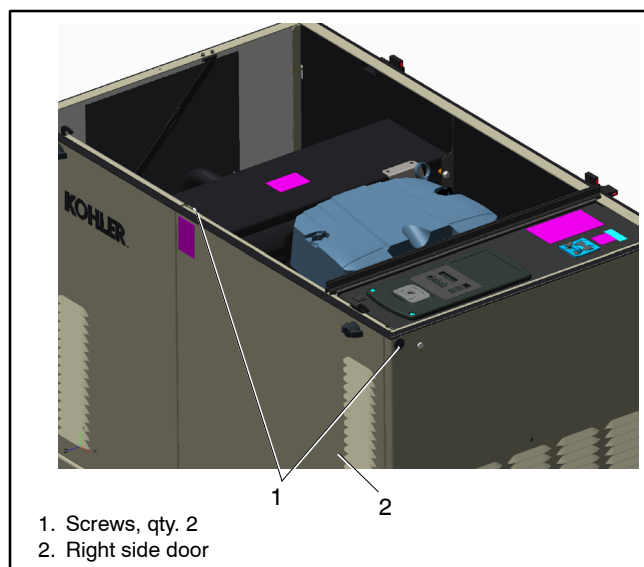

Figure 2 Removing the Service Door
5. Remove the service door from the right side of the enclosure by removing the plug and two screws. See Figure 2. Lift the door up and off.